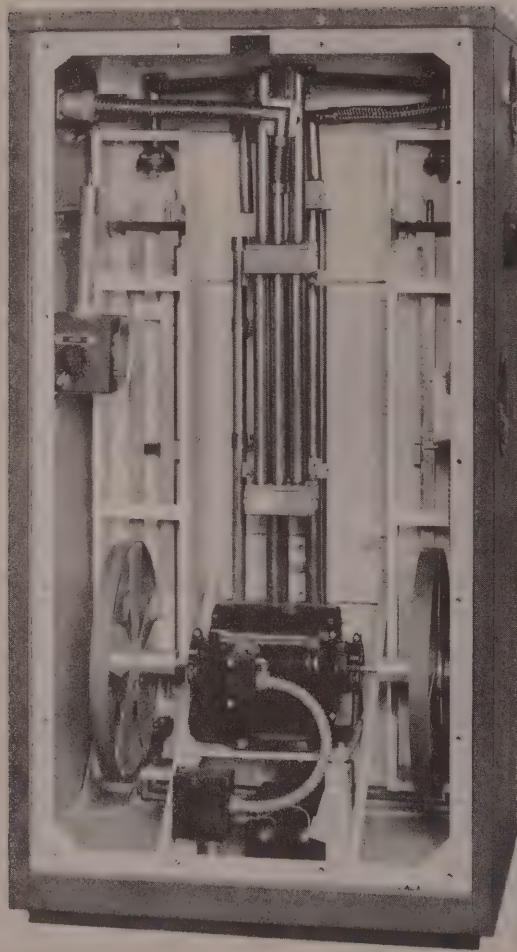

Figure 4-14. Modulator and Bridge MD-24/CRN-10—Front View, Panel Removed
(4) For remote operation of the transmitter, a source of approximately 48 volts d-c is connected to the 48 volt d-c terminals on the front of the junction box. One terminal is grounded.
(5) The "POWER ON" light, lamp I-201, serves to indicate that power is being applied to the equipment when switch S-201 is turned on. Two receptacles (one polarized) are located on the rear panel of the junction box and are usable when switch S-201 is turned on.
(6) The four fuses used are located at the top of the junction box and may be reached by releasing the four captive screws on the top cover plate marked "FUSES."
c. MODULATOR AND BRIDGE MD-24/CRN-10. (See figure 4-14.)
(1) GENERAL.—Radio transmitter T-66/CRN-10 is capable of delivering approximately 100 watts of unmodulated radio-frequency energy at frequencies in the range of 108.3 to 110.3 megacycles. Before this energy can be made to produce a course, it must be modulated, phased, and fed into the radiating system in order to produce the field configurations discussed in section I, paragraph 1a(3). As described previously, the course is produced by two sharply overlapping patterns, each modulated at a different audio frequency. It is the function of the modulator and bridge MD-24/CRN-10 to divide the energy from the transmitter into two equal portions, modulate each with its respective audio frequency, and then recombine the energies to feed antenna system AS-156/CRN-10 properly. To accomplish this, two types of circuits are used. One type (called a bridge) is used for the division, combination,